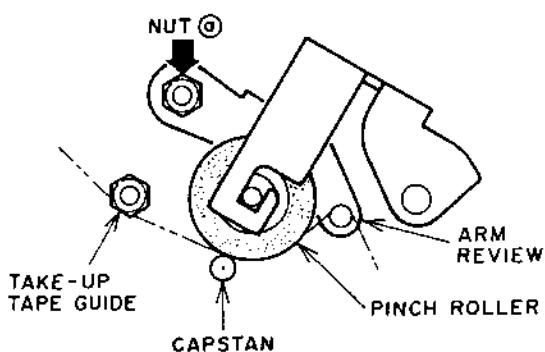
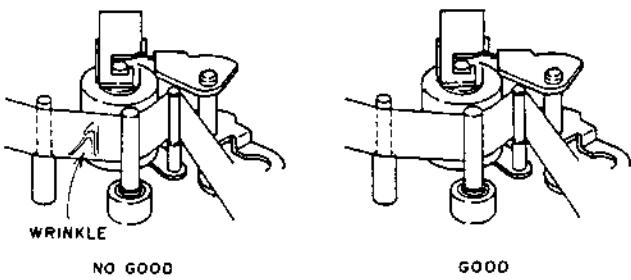

Fig. 5-6
Fig. 5-8
- 2) Turn the REVIEW ARM height nut **(a)** so that the edge of the tape barely touches the lower part of the TAKE-UP TAPE GUIDE without any curl or wrinkle between the TAKE-UP TAPE GUIDE and the CAP-STAN SHAFT as shown in Fig.5-6 to Fig.5-8.